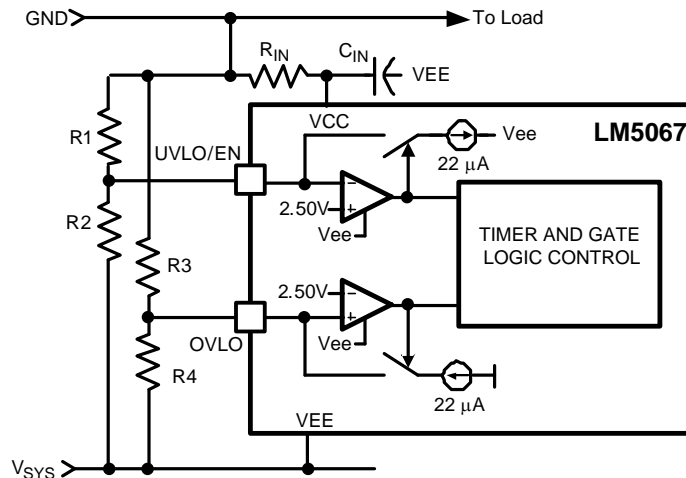

Figure 15. Programming the Four Thresholds
**Option B:** If all four thresholds must be accurately defined, the configuration in Figure 15 can be used.